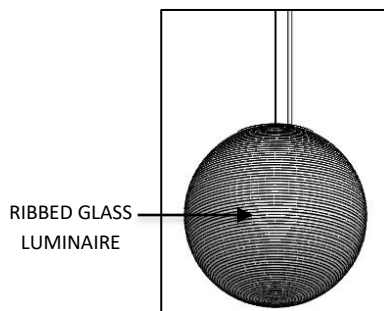
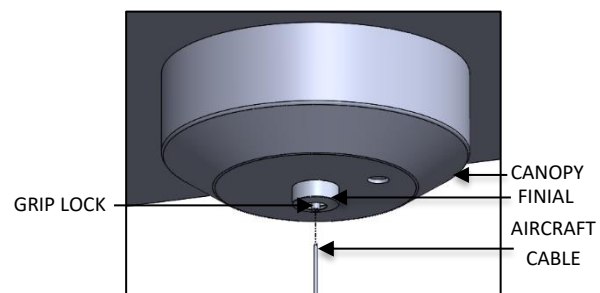

FIG.10 -RIBBED GLASS LUMINAIRE (PRE-ASSEMBLED)
FIG. 11 –CANOPY INSTALLATION
5. Locate the RIBBED GLASS LUMINAIRE as shown in FIG. 10 and with multiple people raise up LUMINAIRE and pass the PREASSEMBLED AIRCRAFT CABLE through the GRIPLOCK in the CANOPY as shown in FIG.11.